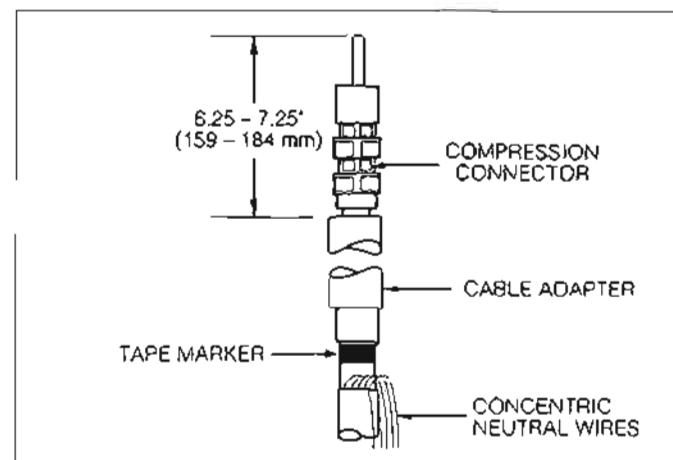

Figure 10.
- Length should be between 6.25" and 7.25" (159 and 184 mm). (Refer to Figure 10.)